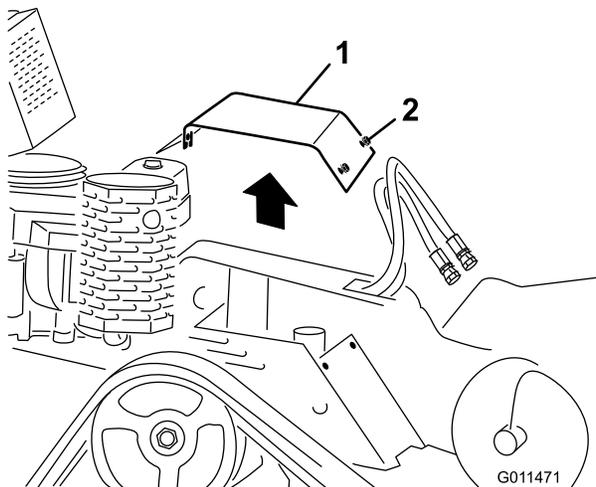

Figure 25
3. Loosen the three bolts securing the cover plate to the frame sequentially until the cover is free (Figure 25).
2. Slide the cover plate into place and secure it with the three bolts you loosened previously (Figure 25).